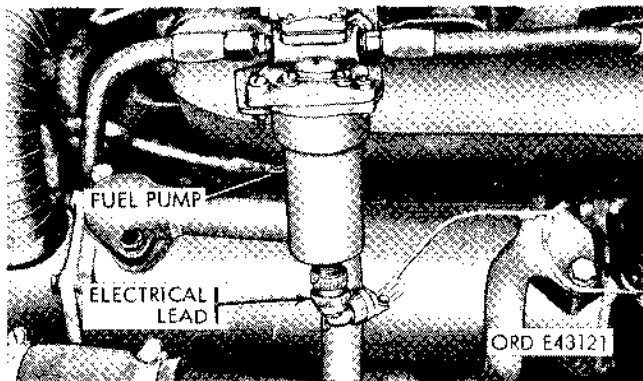

Figure 2-104. Disconnecting electrical lead from manifold heater fuel pump—diesel models.
(1) Disconnect the electrical lead from the fuel pump (fig. 2-104).
(3) Connect the lead to the pump (fig. 2-104).